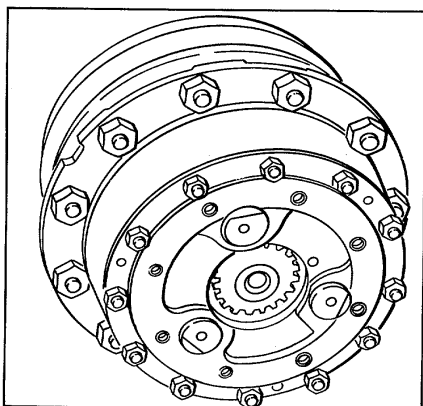

Figure 4.
3. Remove the cover to planetary spider gasket (refer to Fig. 4).